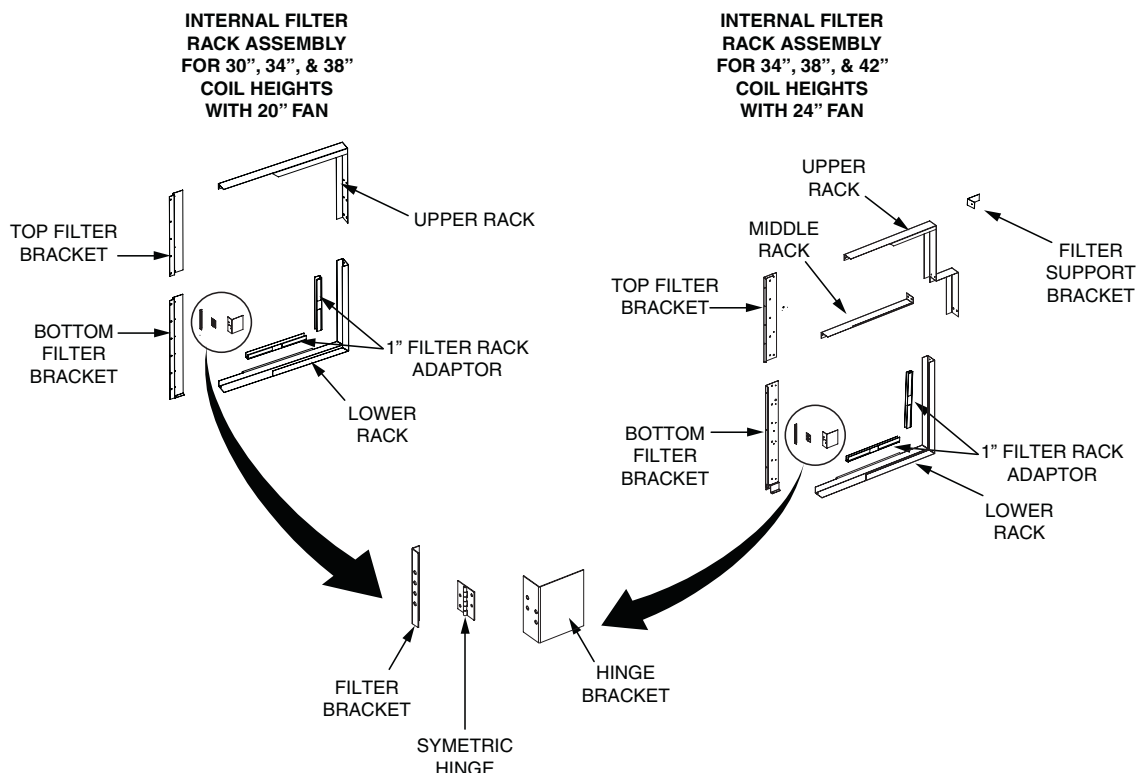

Figure 1. Internal Filter Rack
2. Verify all parts are accounted for in your kit by referring to Figure 1 (page 1) and the bill of materials in Table 1 (page 3).